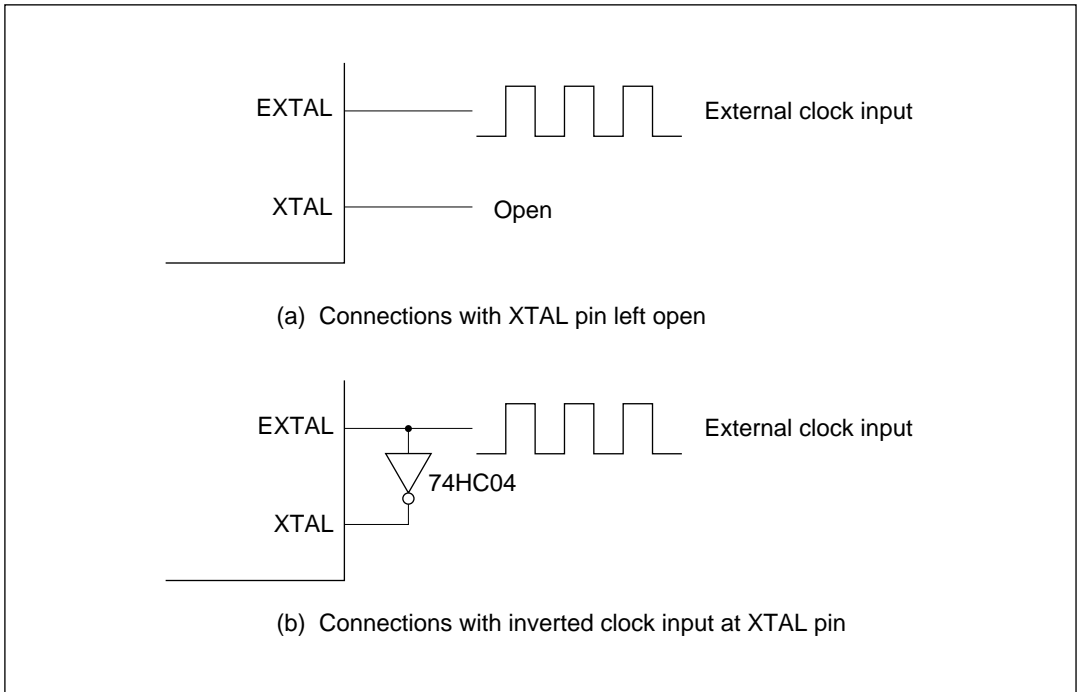

Figure 6-5 External Clock Input (Example)
(2) Input of External Clock Signal
① **Circuit Configuration:** An external clock signal can be input as shown in the examples in figure 6-5. In example (b) in figure 6-5, the external clock signal should be kept high during standby.